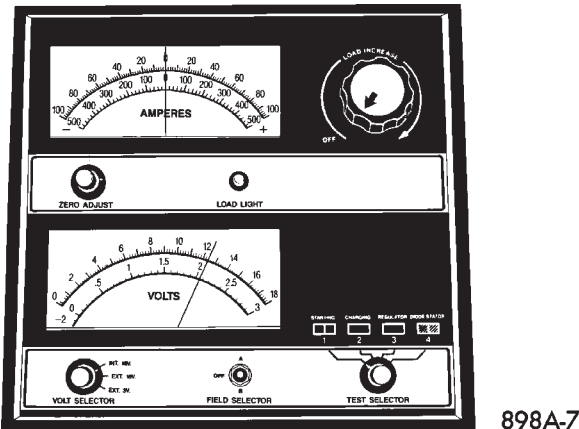

Fig. 9 Testing Open-Circuit Voltage - Typical
(1) Before measuring the open-circuit voltage, the surface charge must be removed from the battery. Turn on the headlamps for fifteen seconds, then allow up to five minutes for the battery voltage to stabilize.
(2) Disconnect and isolate both battery cables, negative cable first.
(3) Using a voltmeter connected to the battery posts (see the instructions provided by the manufacturer of the voltmeter), measure the open-circuit voltage (Fig. 9).